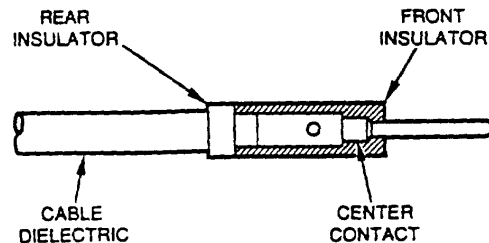

Figure 8. Contact Insulator
f. Crimp center contact using the specified crimp tool frame, and positioner and selector knob setting required for the cable (Figure 8).
g. If front insulator is not captivated inside contact body, slide front insulator, large inside diameter first, over center contact (Figure 8).